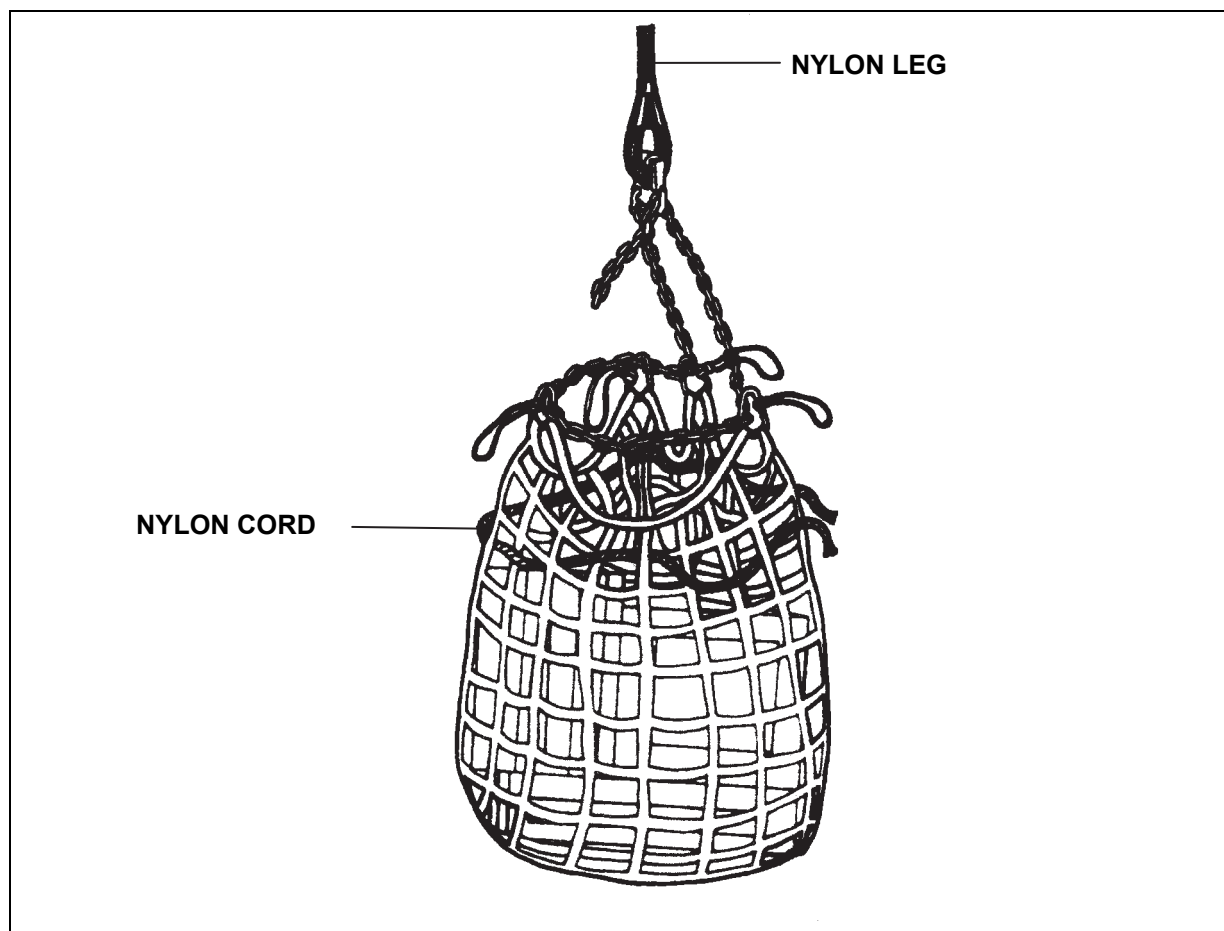

Figure 7-2. Rigged Loaded Net
- Tie the net around the top of the cargo with nylon cord (figure 7-2) or other material by routing the cord through the net mesh. Tighten and secure the cord to prevent the net from hanging loose and cargo falling out.